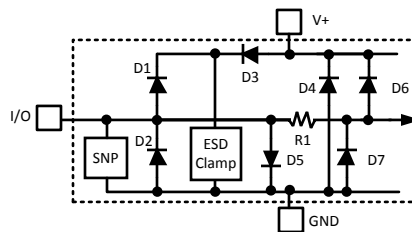

Figure 3. ESD Protection Input Structure
- (1) Absolute Maximum Ratings indicate limits beyond which damage to the device may occur. DC and AC electrical specifications do not apply when operating the device beyond its rated operating conditions.
- (2) When the input voltage (VI) at any pin exceeds the power supplies (VI < GND or VI > VDD), the current at that pin should be limited to 5 mA. Parasitic components and or ESD protection circuitry are shown in Figure 3 below for the LM95221's pins. The nominal breakdown voltage of D4 is 6.5 V. Care should be taken not to forward bias the parasitic diode, D1, present on pins: D1+, D2+, D1-, D2-. Doing so by more than 50 mV may corrupt the temperature measurements.
- (3) See the URL "<http://www.ti.com/packaging/>" for other recommendations and methods of soldering surface mount devices.
- (4) Human body model, 100pF discharged through a 1.5kΩ resistor. Machine model, 200pF discharged directly into each pin.